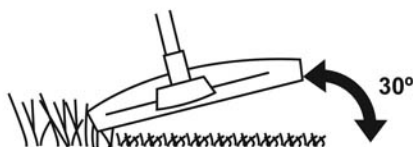

Fig. 25
- > Hold the cutting head just above the ground, at an angle of approximately 30° (Fig. 25).